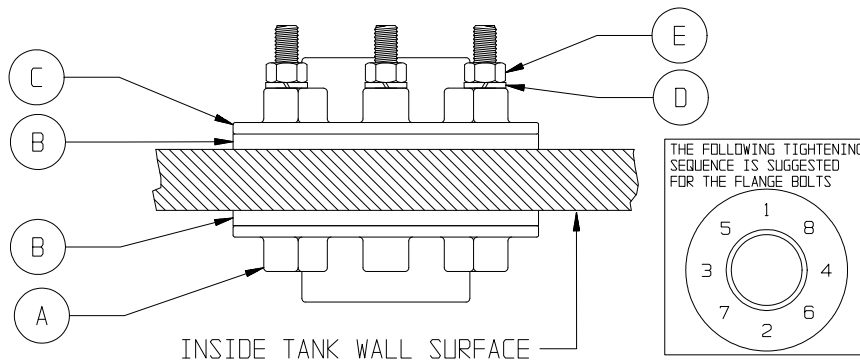

Figure 6.4
6.4.1 The bolted stainless steel fitting shall be constructed with 1 ea. inside flange with studs (A), 2 ea. fitting gaskets (B), 1 ea. outside flange (C), and the correct number of lock washers (D), and hex nuts (E) for the fitting specified. Refer to Figure 6.4 for part identification.
6.4.2 Disassemble the fitting as shipped by removing the hex nuts, lock washers, outside flange and outside flange gasket. Locate the fitting hole on the inside of the tank and insert the fitting's studs through the drilled holes in the tank. A gasket (B) should be between the inside fitting flange and the inside tank wall. Place the outside flange gasket and outside flange over the studs on the outside surface of the tank. Install the lock washers and hex nuts on the studs. Check to make sure the fitting assembly appears as shown in Figure 6.4.